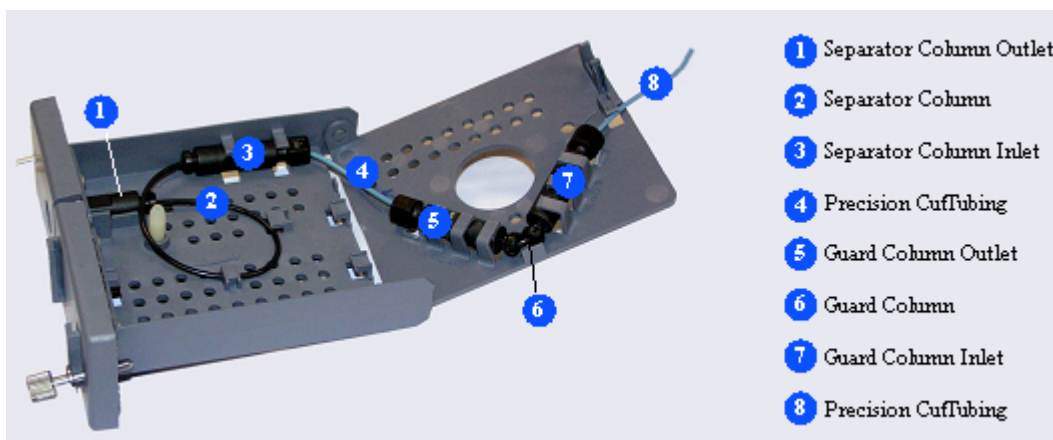
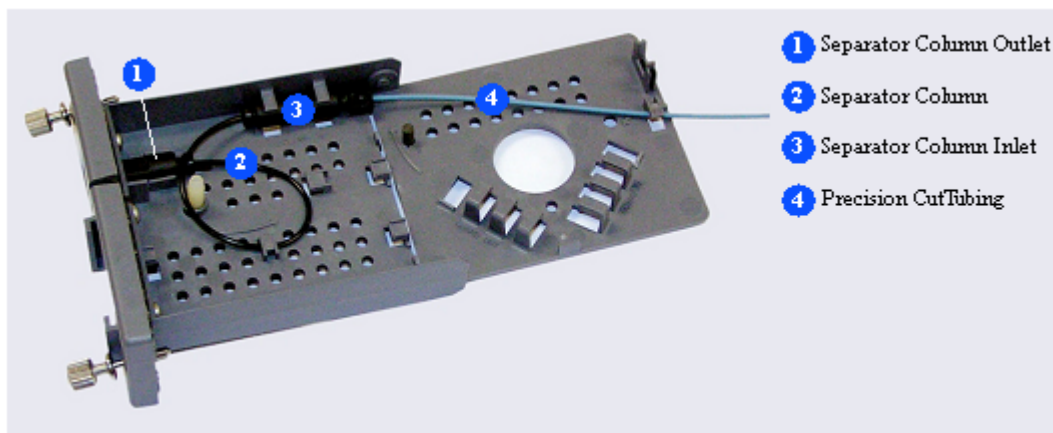

Figure 2
Figure 3
Before installing the new separator column, tear off the column label and slide it into the holder on the front of the cartridge (see Figure 2).
For reference, Figure 2 shows the column cartridge after installation of both a capillary guard column and a capillary separator column. Figure 3 shows the column cartridge after installation of only a capillary separator column. Before installing the new separator column, tear off the column label and slide it into the holder on the front of the cartridge (see Figure 2).
For reference, Figure 2 shows the column cartridge after installation of both a capillary guard column and a capillary separator column. Figure 3 shows the column cartridge after installation of only a capillary separator column.
5. Coil the separator column tubing inside the cartridge as shown in Figure 2 or Figure 3. Secure the column tubing and the inlet fitting in the clips on the column cartridge.